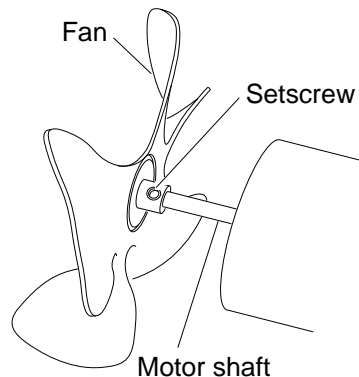

Figure 9 - Fan, Motor Shaft, and Setscrew Location
4. Use 1/8" Allen wrench to loosen setscrew which holds fan to motor shaft (see Figure 9).